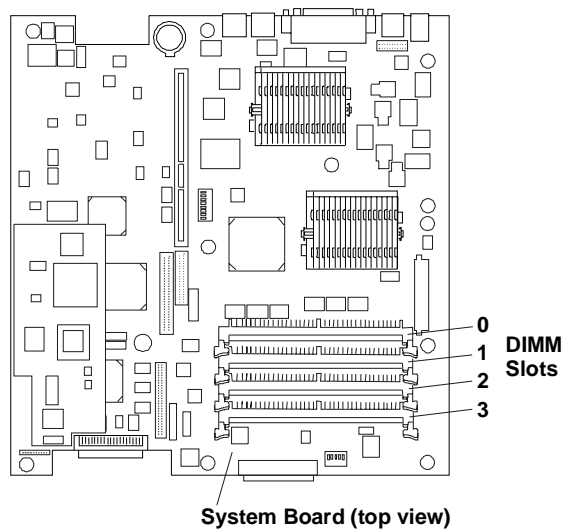

Figure 4-2. DIMM Locations on System Board
6. Locate the DIMM slots on the system board, and choose an empty slot to install a DIMM. See Figure 4-2.
6. Locate the DIMM slots on the system board. See Figure 4-2.